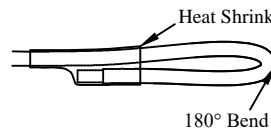

Figure 21: Unused wire covering.
10. Connect the license plate light to the wiring harness using heat shrink butt connectors (Figure 21).
11. Cover the unused white and brown wires with heat shrink tubing as shown (Figure 21).